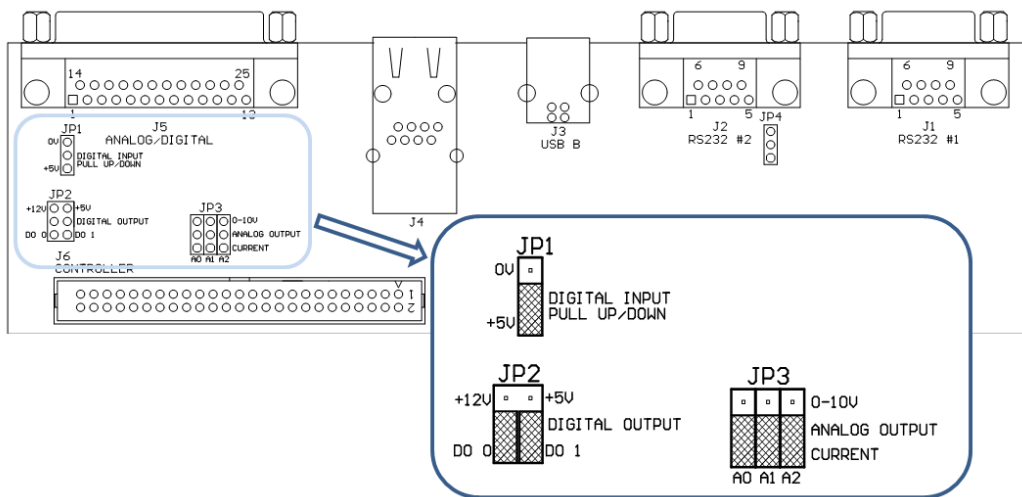

Figure 19 – 25 Pin Rear Panel PCA (Default Jumpers Highlighted)
- A 12K ohm terminating resistor should be placed on the last connector of the cable (connect from pin 2 to pin 5 and from pin 3 to pin 5 – refer to Figure 19).
The instrument is equipped with eight logic level inputs for the external control of the instrument such as Zero or Span sequences. Each input has a terminating resistor which can be either PULL UP or PULL DOWN. This is set using the jumper JP1 on the back panel PCA (refer to Figure 19).
In the default jumper locations (refer to Figure 19) these two outputs will function normally as open collector outputs. If moved to the position closer to the 25 pin connector then the DO 0 will supply +12V and DO 1 will supply +5V.